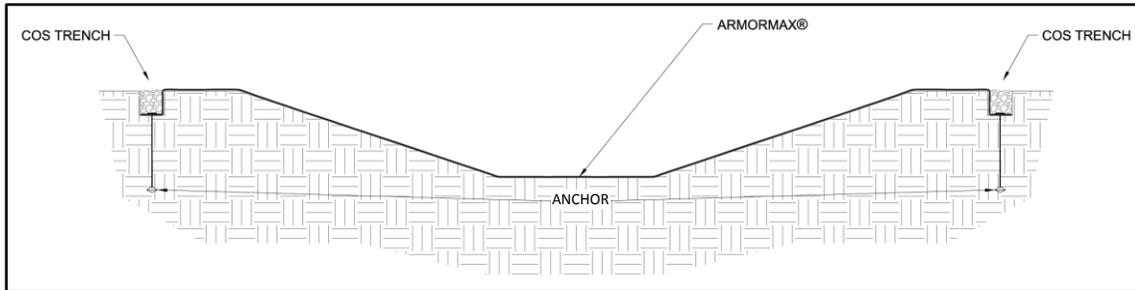

Figure 16: Crest of Slope (COS) Trenches Complete
12. Secure ARMORMAX with pins and anchors in the opposite COS trench. Suggested placement of pins and anchors for the opposite COS trench is along the bottom of the trench with pins on 12 in (300 mm) centers in between anchors on 4 ft (1.2 m) centers (Figure 16).
- Backfill and compact the opposite COS trench in the location of the first ARMORMAX panel only (Figure 16).